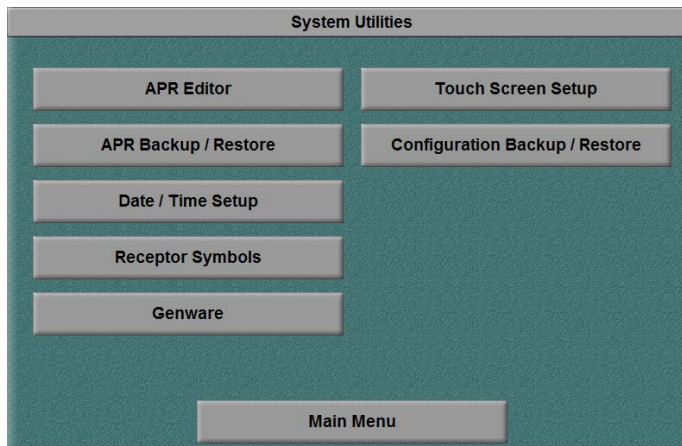
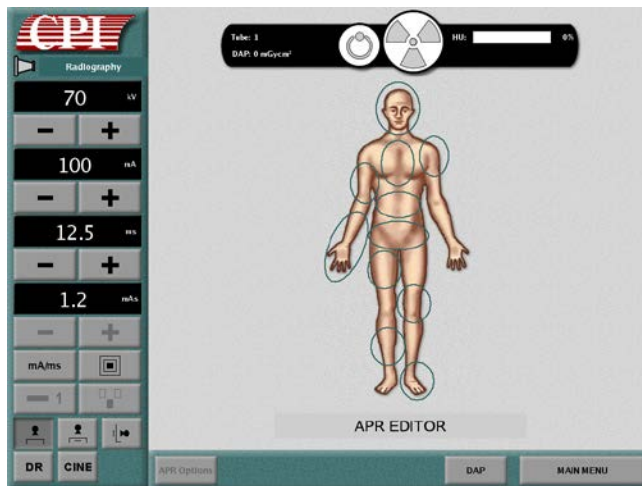

Figure 3-28: System Utilities Menu
Figure 3-29: APR Editor Window
- Press **Accept** to access the system utilities menu. After a brief delay, the system utilities menu (Figure 3-28) will be displayed. The message, "**Access Denied**" indicates that a password was incorrect. ***A service engineer as described later in this supplement may change the factory-default password. If the service engineer did changes the password, the password defined above will be not valid for the system utilities menu.***
1. From the system utilities menu (Figure 3-28), press **APR Editor**. A screen similar in appearance to the normal operating screen will be displayed (Figure 3-29). However, as a reminder that you are in APR editor mode, the word **APR EDITOR** will be displayed in the APR window.